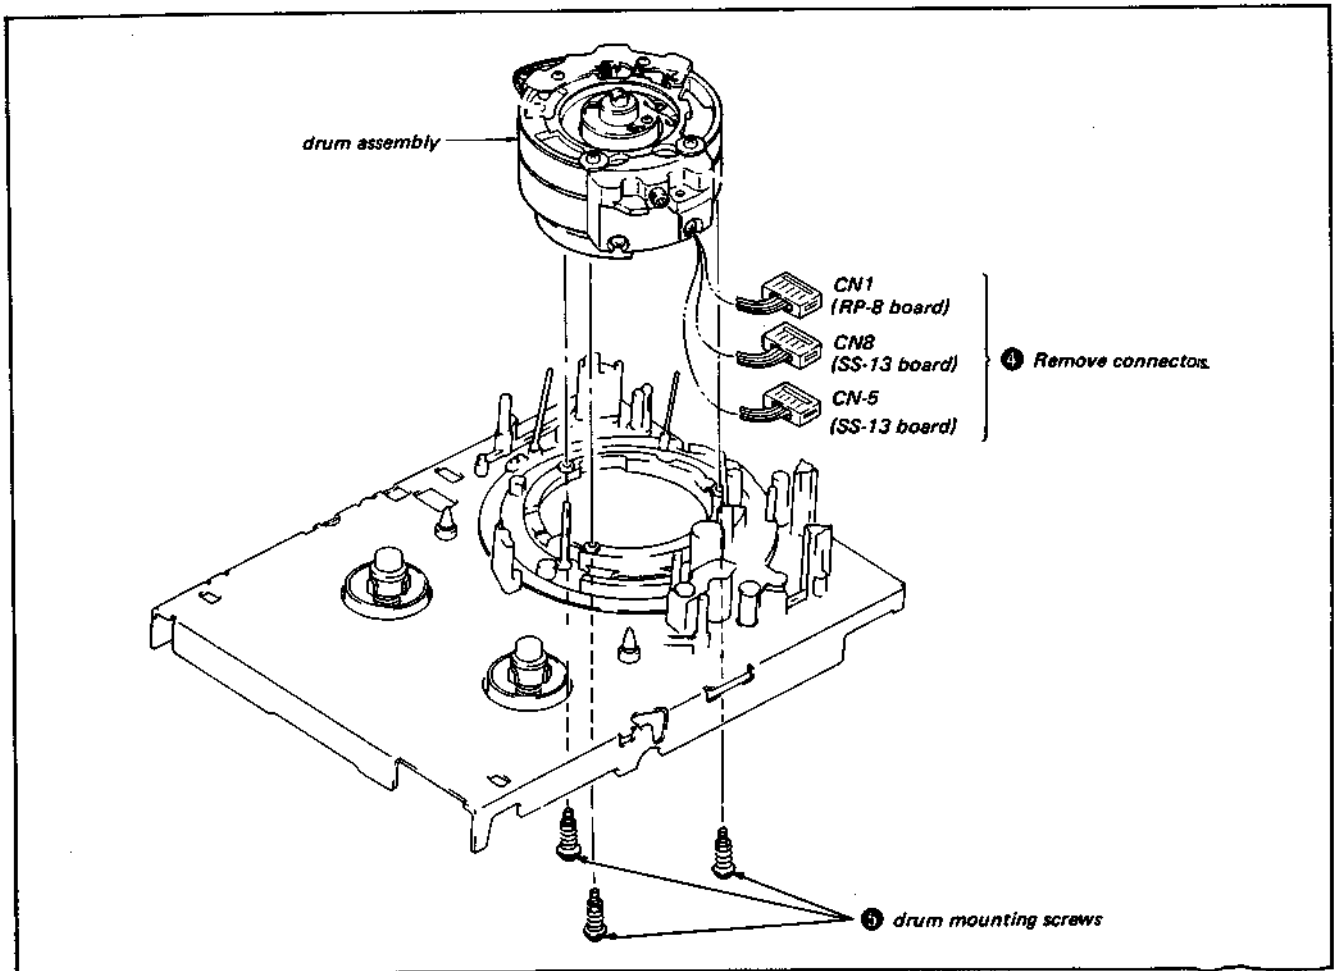

Fig. 3-6. Removal of the drum assembly
- ④ Remove the 3 connectors from the rear of the chassis as shown in Fig. 3-6.
- ⑤ Remove the 3 drum mounting screws from the rear of the chassis, then remove the main body of the drum assembly. After the replacement has been completed, adjust the drum path.